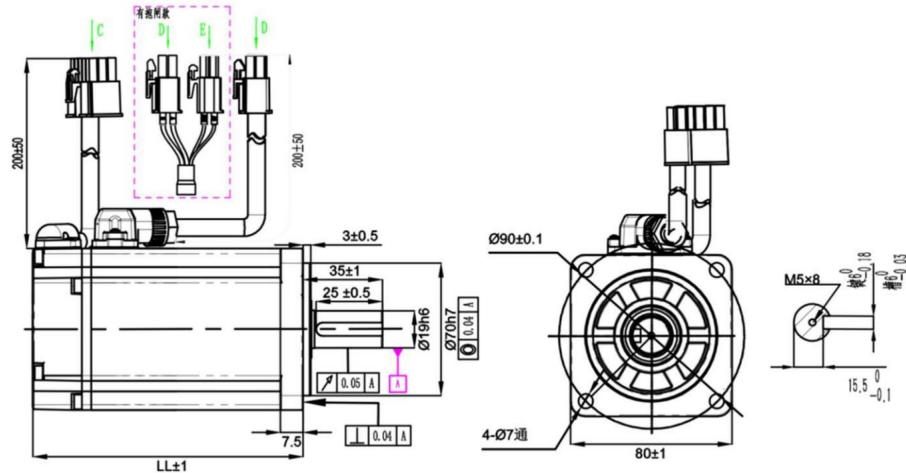

Figure 3.3 80 motor and Table 3-2
- 80 flange motor installation dimensions (see Figure 3.3 and Table 3-2)